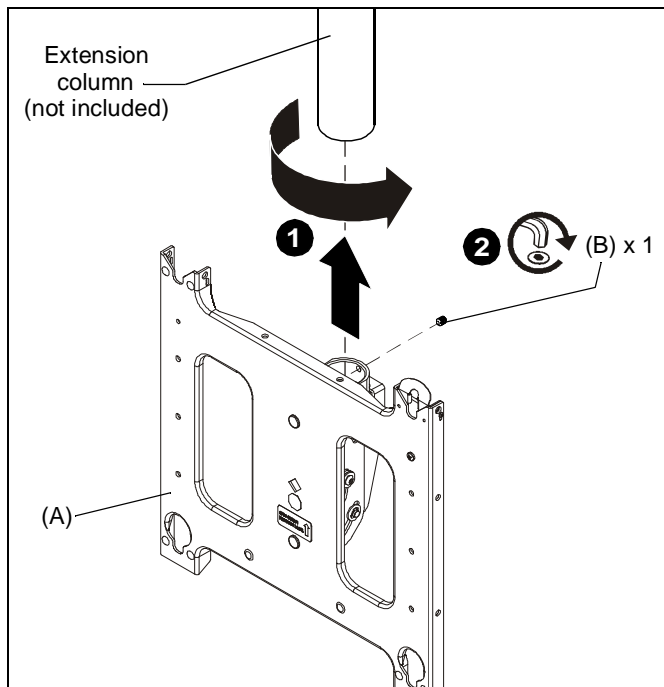

Figure 1
1. Thread the PCS mount (A) onto the existing 1-1/2" NPT or NPSM pipe (not included) until tight, with a minimum of four threads engaged. (See Figure 1)
2. Install and tighten the 5/16-18 x 3/8" set screw (B). (See Figure 1)